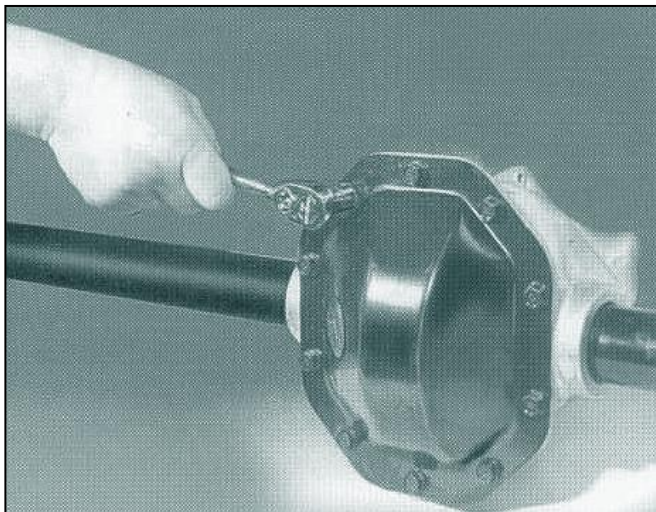

Figure 7-4
1. Remove drum (34).
2. Remove the 4 screws (22) holding the seal (28).
3. Remove brake assembly (26), bearing (25), ring (24), oil seal (23) and axle shaft (31).
5. See Figure 7-4. Remove ten cover plate (36) screws (20).
1. Remove ten cover plate bolts (Figure 7-4). Remove cover and drain oil into drain pan.